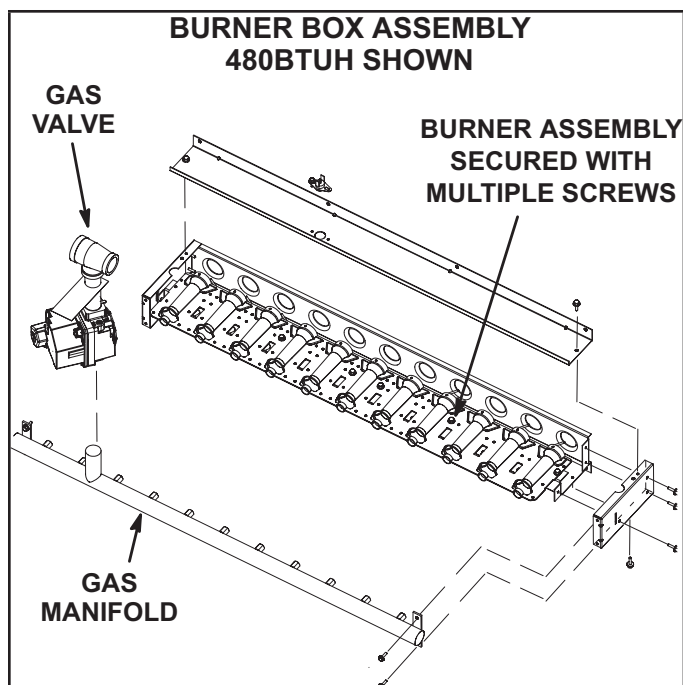

FIGURE 38
- 3 - Remove screws securing burner assembly to burner support and remove assembly. See FIGURE 38. Clean as necessary.